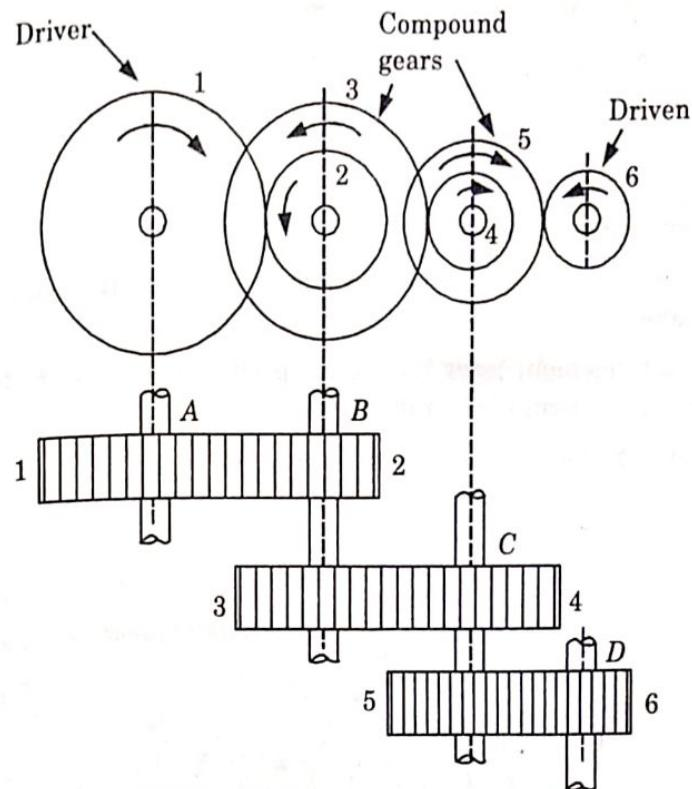

Fig. 2.26.2. Compound gear train.
- When there are more than one gear on a shaft, as shown in Fig. 2.26.2, it is called a compound gear train.
- In a compound gear train, shown in Fig. 2.26.2, the gear 1 is the driving gear mounted on shaft A, gear 2 and 3 are compound gears which are mounted on shaft B. The gear 4 and 5 are also compound gears which are mounted on shaft C and the gear 6 is the driven gear mounted on shaft D.